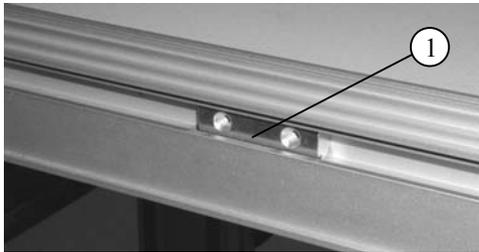

Figure 4
1. Install t-bars (Figure 4, item 1) into conveyor t-slot.